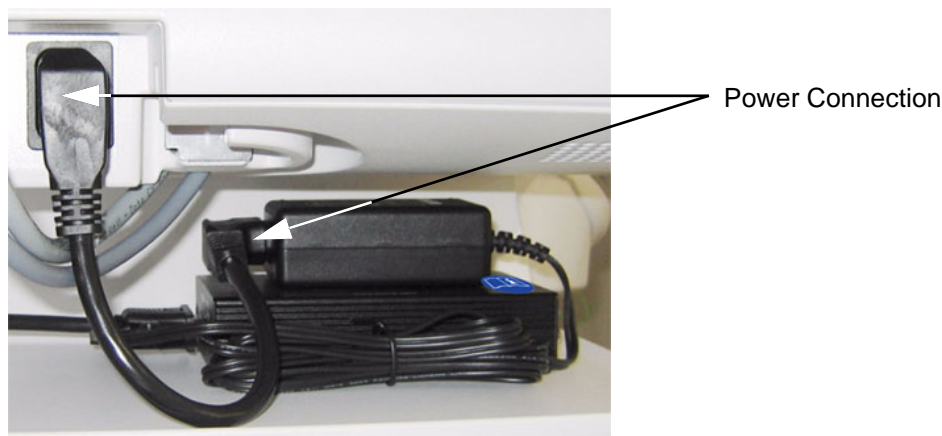

Figure 8-30 Power Connection
- 6.) Plug the Power Cable into the Power outlet above this shelf and plug the other end into the Power Supply's input socket (see: Figure 8-30 below).